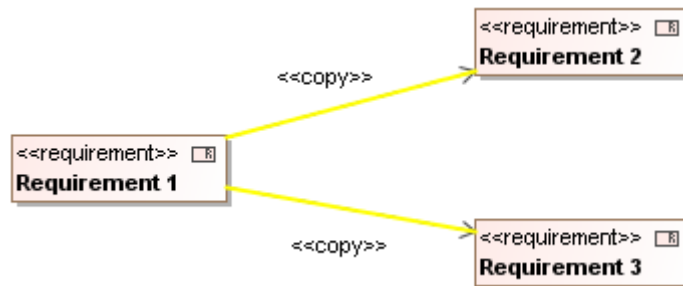
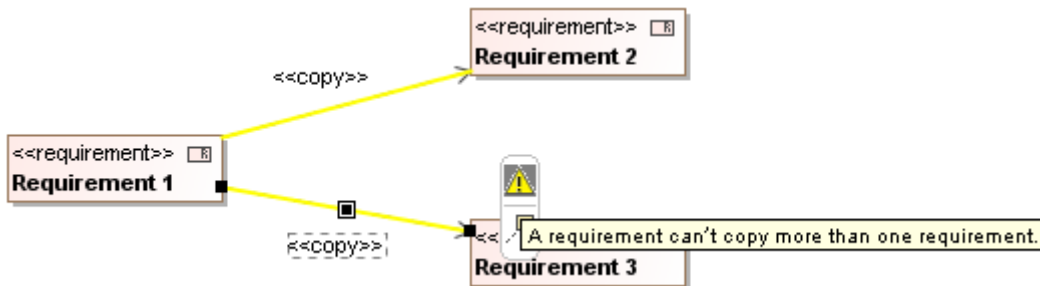
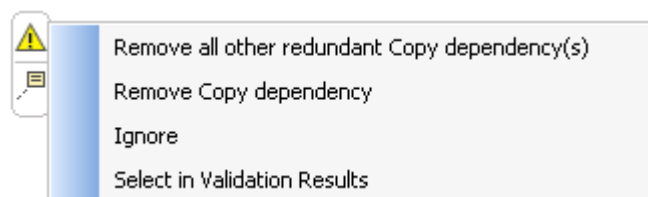

Figure 210 -- Invalid Elements Detected by the Active Validation
Figure 214 -- Invalid Copy Dependency Usage
Figure 215 -- Proposed Solutions for the Invalid Copy Dependency
The following example, a simple SysML project with three requirements and a Copy dependency, illustrates how this Active Validation feature works (Figure 210).
- 2. Whenever an element is invalid, it will be highlighted in the diagram («copy» in the example, Figure 210). On the status bar at the bottom of the screen (Figure 211 and 212),
- Select a highlighted invalid element in the diagram («copy» in the example, Figure 210). Once a highlighted invalid element has been selected in the diagram, a warning symbol will appear (Figure 214). Place your pointer on the warning symbol to see the error message related to the constraint, for instance, *A requirement can't copy more than one requirement* (Figure 214).
- Click the warning symbol after you have clicked the invalid element in the diagram (Figure 214). After clicking, for example, solutions will then be displayed (Figure 215).